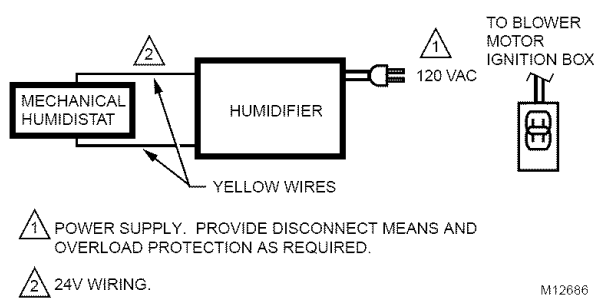

Fig. 5. Typical wiring diagram for humidifier using fan control to cycle blower motor fan and humidifier simultaneously.
2. Connect only the two yellow wires to the humidistat (red wire connections are not used for mechanical humidistats). See the typical wiring diagrams in Fig. 5 through 7.